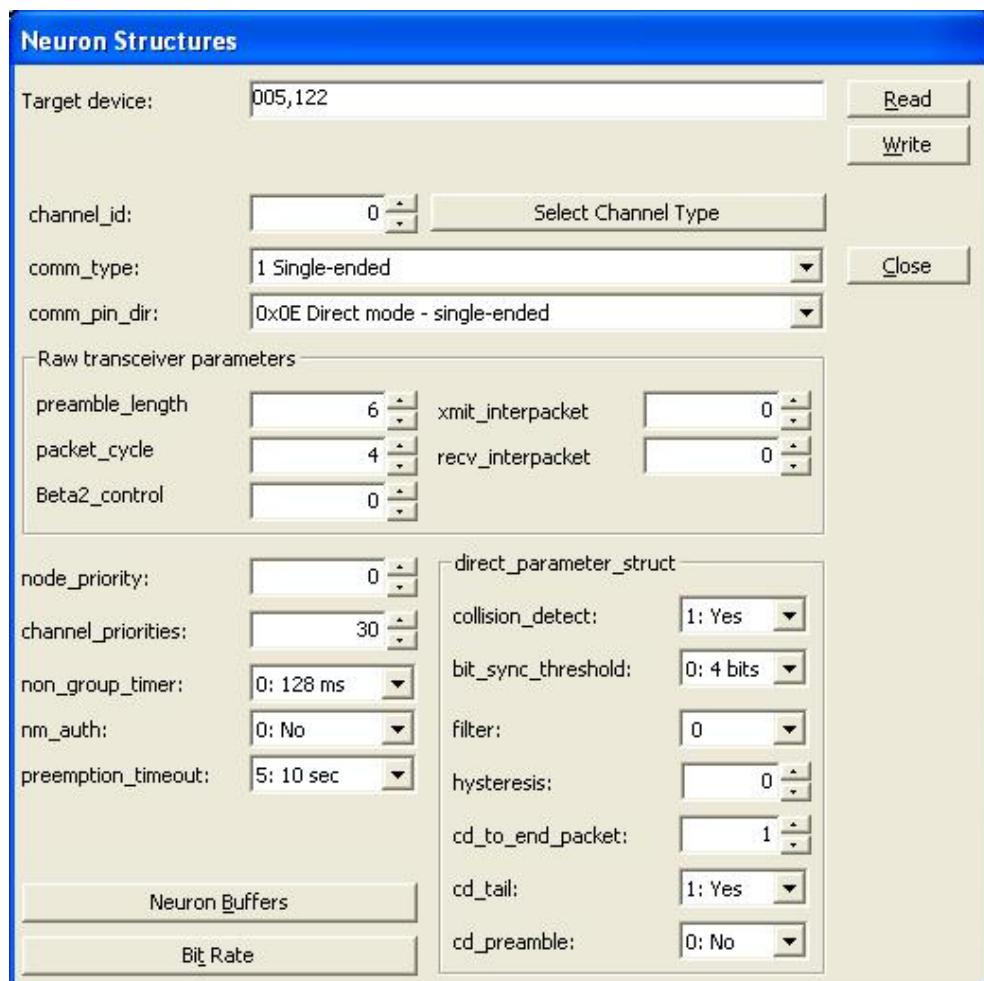

Figure 13: Neuron Structure parameter values set with LNT
Test the LON network and change the devices' parameters with help of LON Network Tool (LNT). The Neuron Structure parameter values set with LNT are shown in Figure 13.
9. Click **OK** to open the **Neuron Structures** dialog, see Figure 13.